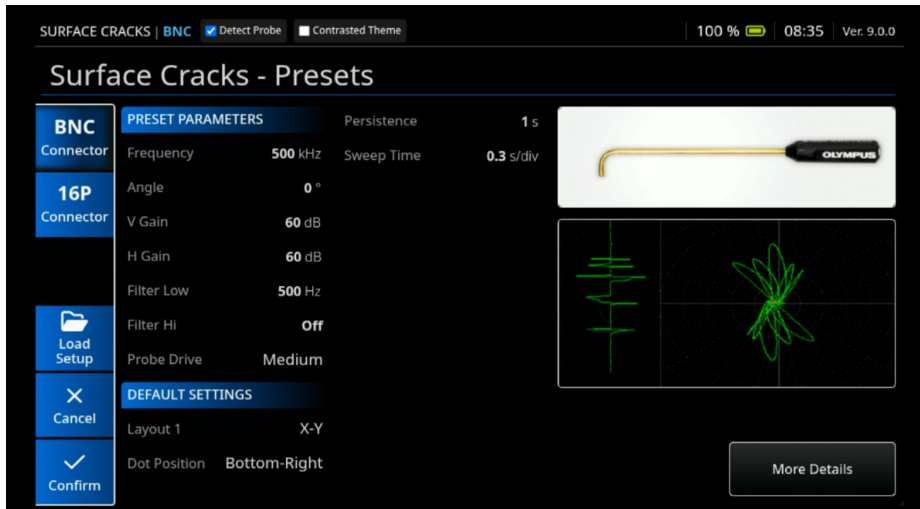

Figure 3-5 Select Surface Crack Preset
4. Select the desired configuration and press **Confirm** (See Figure 3-5 on page 49).